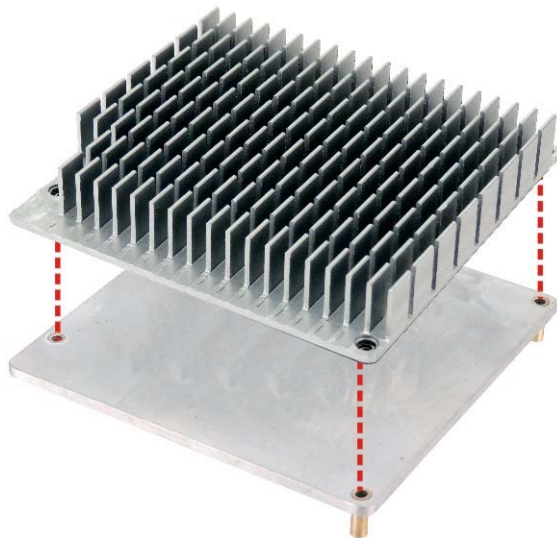

Figure 4-3: Attach the Heat Sink to the Heatspreader Plate
Step 2: Place the supplied heat sink on the heatspreader plate, aligning the four retention screw holes (**Figure 4-3**). Ensure to apply thermal paste to the heat sink or heatspreader plate for optimum heat dissipation.